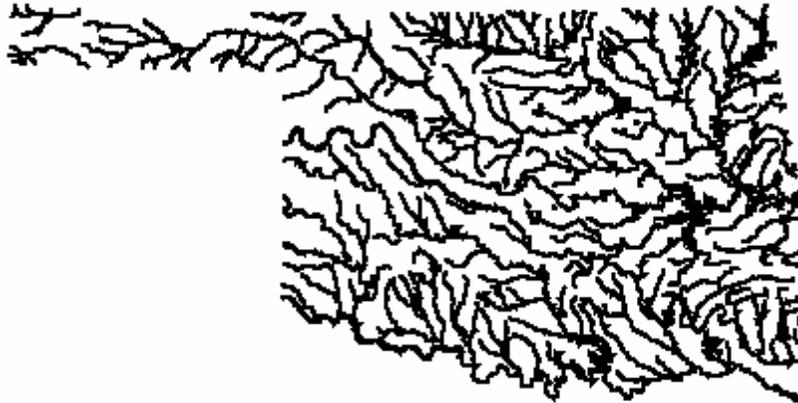

Figure 23. Imported Oklahoma water bodies.
5. After the shapes have been imported, select **View|Go To...** and select the first imported shape. Then zoom out to see all the imported water bodies. Only shapes that are at least partially in Oklahoma will have been imported, and their coordinates will have been converted to UTM coordinates (fig. 23).